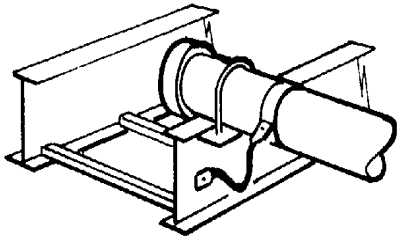

Figure 4.52
4.6.4 Conduit-to-Cable Tray Adaptors (See Figures 4.52 through 4.54.)